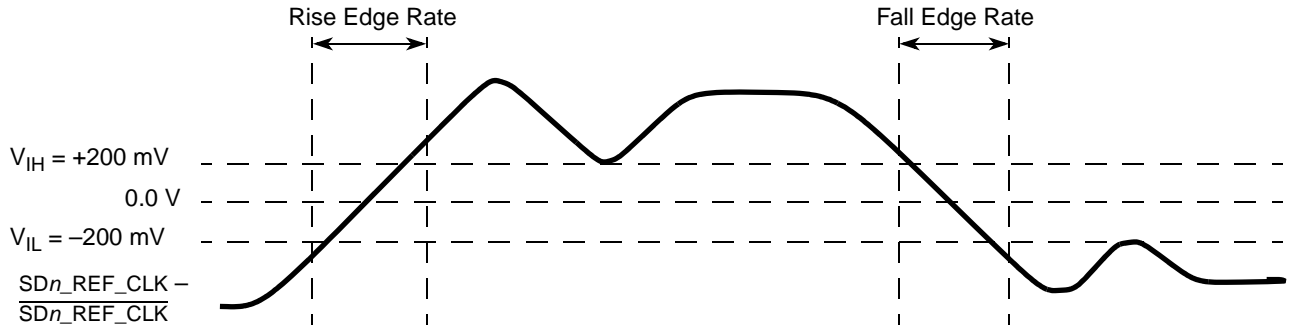

Figure 48. Differential Measurement Points for Rise and Fall Time
- Measured from -200 mV to +200 mV on the differential waveform (derived from $\text{SD}_n\text{_REF_CLK}$ minus $\overline{\text{SD}_n\text{_REF_CLK}}$). The signal must be monotonic through the measurement region for rise and fall time. The 400 mV measurement window is centered on the differential zero crossing. See Figure 48.